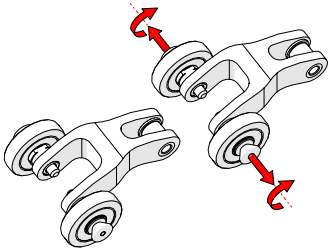

Fig. 24 - Pull out and twist pins
1. Pull the pins out from the wheels, and twist a quarter turn latching the pins in a retracted state (Fig. 24).